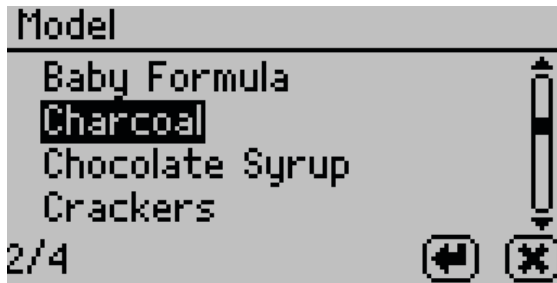

Figure 28 Moisture content model list
5. Select the desired model from the list (Figure 28).